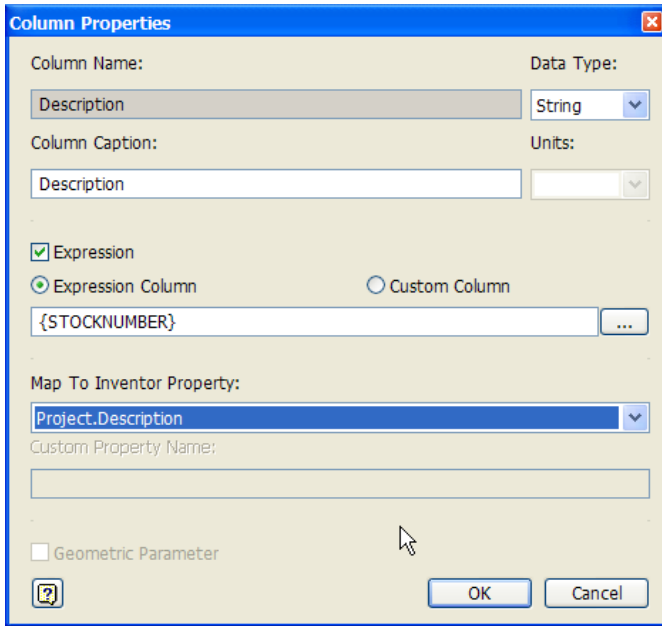

Figure 9: Column Properties for Description column
- Fill in the Column Name and Column Caption by typing 'Description' in both places (Fig. 9)
- Check the box next to 'Expression' and add the parameter Stock Number (Fig. 9)
- Click the down arrow button on the 'Map to Inventor Property' and select 'Project.Description' (Fig. 9)